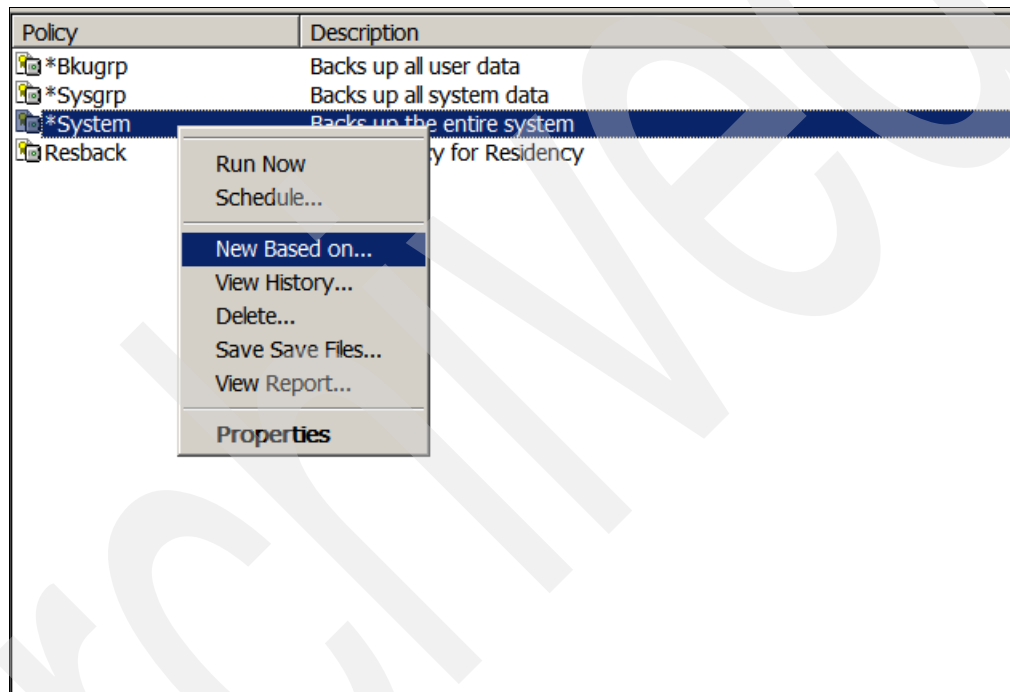

Figure 6-45 Create new backup policy for save entire system
1. In iSeries navigator, expand the IP address of the System i partition with which you are working, expand *Backup Recovery and Media Services*, and click **Backup Policies**. This displays a list of existing backup policies in the right panel of iSeries Navigator. In the right panel, right-click the backup policy **System* and select **New based on** from the pull-down menu that pops up. This is shown in Figure 6-45.